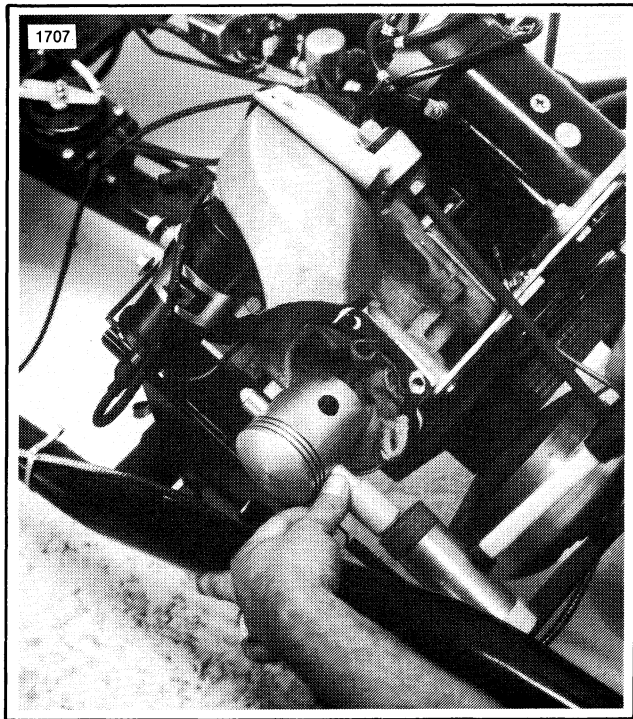

Figure 5-7. Removing the Piston
7. See Figure 5-7. Remove both piston pin lock rings using an internal snap ring pliers. Heat the piston pin bosses and remove the pin by drifting it out using the PISTON PIN TOOL, Part No. 96777-72.